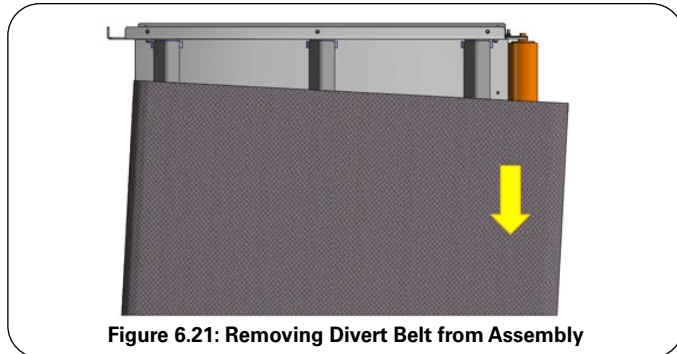

Figure 6.21: Removing Divert Belt from Assembly
- i. Set the Divert Assembly on the floor, oriented so the MDR roller is vertical to the floor with the wiring harness closest to the floor (Figure 6.21). Be careful not to damage the wiring harness of the MDR during this procedure.